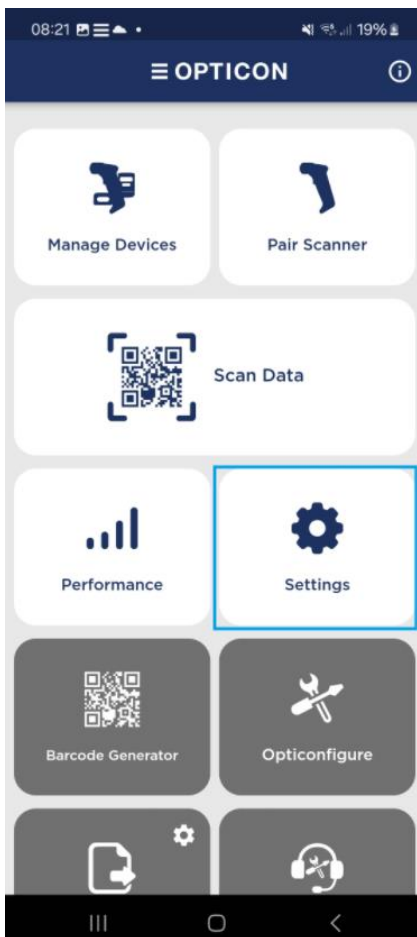
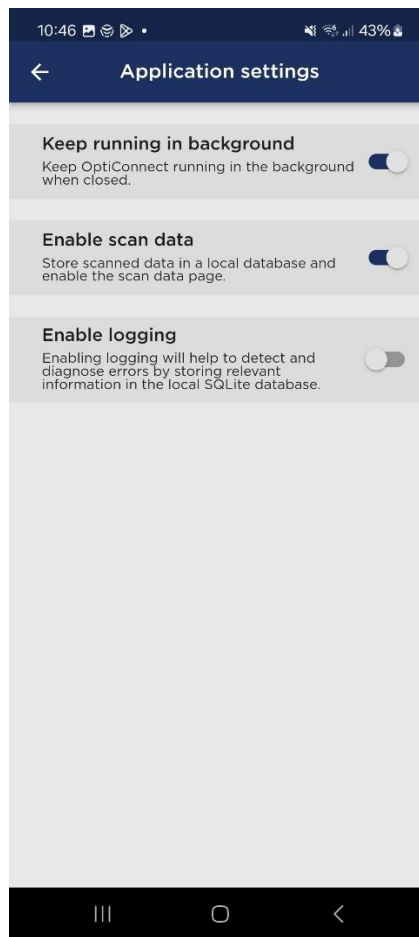

Figure 4-1: The *Settings* button in the main menu.
Figure 4-2: The *Application settings* page.
The Application Settings page in OptiConnect provides several configuration options to enhance the user experience and functionality of the application (see Figure 4-2). These settings can be accessed via the main menu by clicking the *Settings* button (see Figure 4-1) and then selecting the *Application Settings* button within the *Settings* menu.
1. Open the OptiConnect settings page and navigate to the Application settings page (see Figure 4-2).